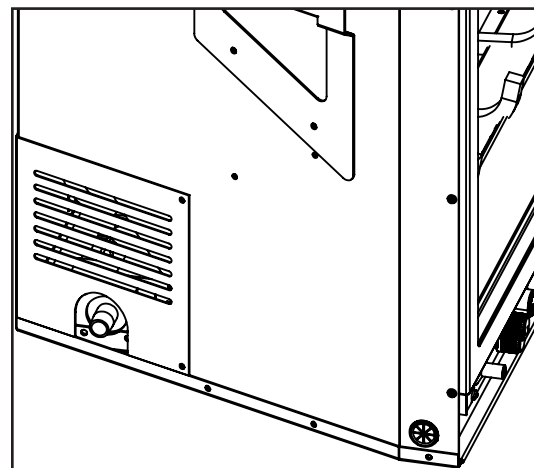

Figure 34: 3/8" NPT Male Pipe Nipple with Cover Attached.
- A 3/8" NPT male pipe nipple (supplied with the unit) will have to be turned into the valve at the lower left side rear of this fireplace (see Figures 34 and 35). Consult the local authorities for local codes or use the CAN/CGA B149 (1 or 2) installation code in Canada. In the US, gas installations follow either local codes or the current edition of the National Fuel Gas Code ANSI Z223.1.
1. The adjustment screw can be reached through the front of the unit using a 10 inch long blade head screw driver (see Figure 34 for location on valve).